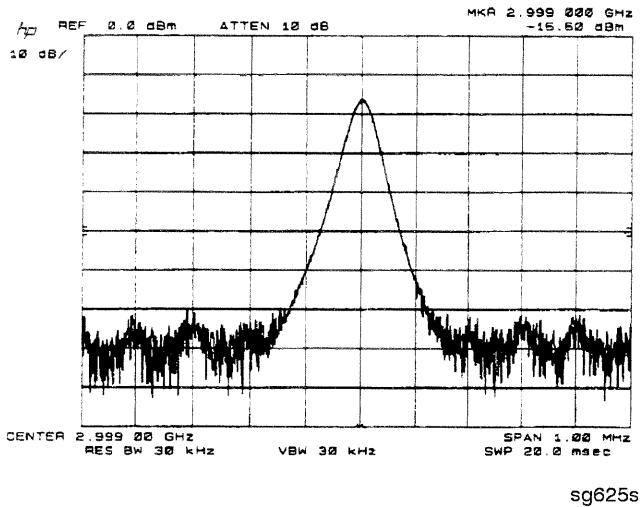

Figure 7-24. High Quality Comb Tooth at 3 GHz
2. If the analyzer malfunction relates to a particular frequency or range, look more closely at the comb tooth there. Adjust the spectrum analyzer span and bandwidth as required. Even at 3 GHz, the comb should look as clean as Figure 7-24. For Option 006 instruments at 6 GHz the comb tooth level should be approximately -46 dBm.
4. If the signal is not as clean as Figure 7-24, observe the HI OUT input signal to the A7 assembly.